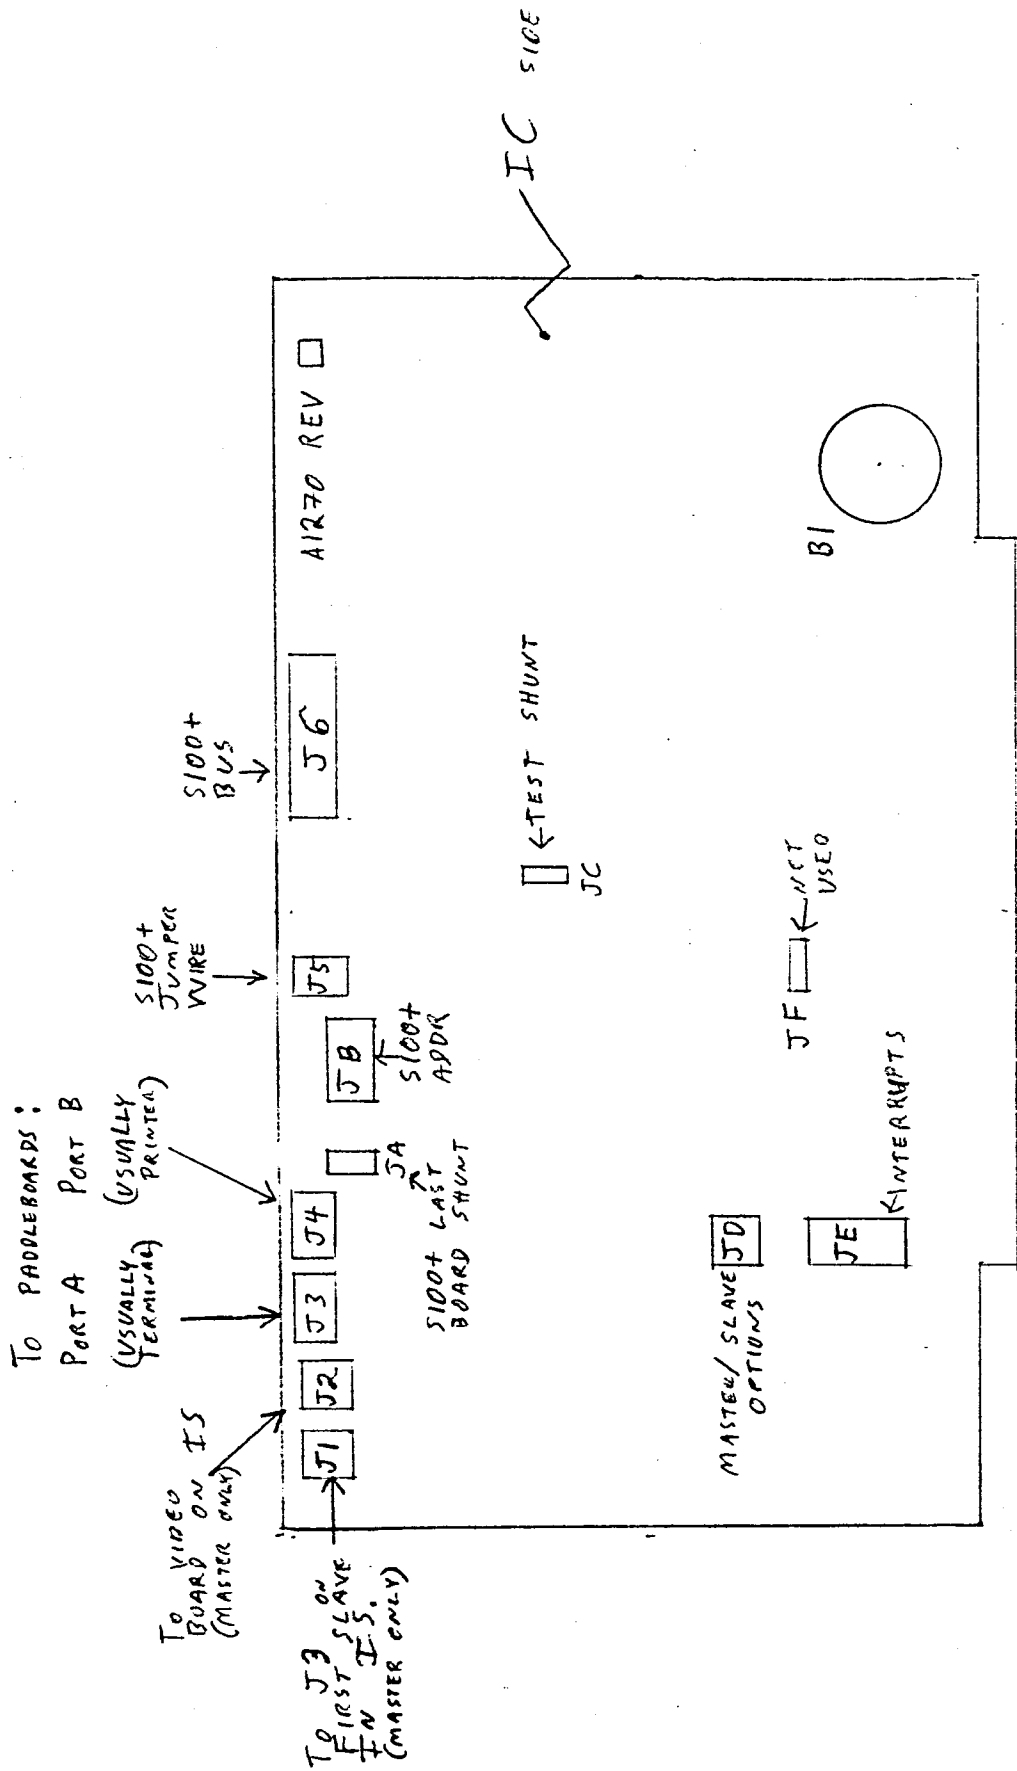

FIG. 1. Z80B MASTER/SLAVE SHUNTS AND EXTERNAL CONNECTORS
Each board sent from the factory has been fully tested, however, a quick visual inspection is recommended to ensure that no obvious damage has occurred to the board (bent connectors, dislodged IC, etc). Orient the board with the IC side facing you with the S100 connectors towards the bottom. Refer to Figure 1 for the following steps:
1. Shunts for master boards. (The shunt jack locations are as shown in Figure 1):